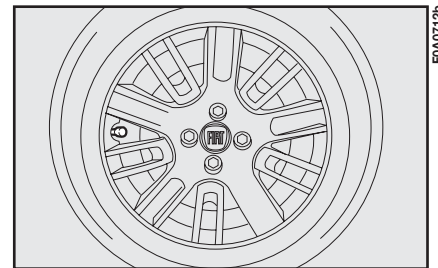

fig. 12
**20)** To versions with large wheel cup, make symbol  fig. 12 coincide with the inflation valve. Fasten the four bolts are shown in 19).